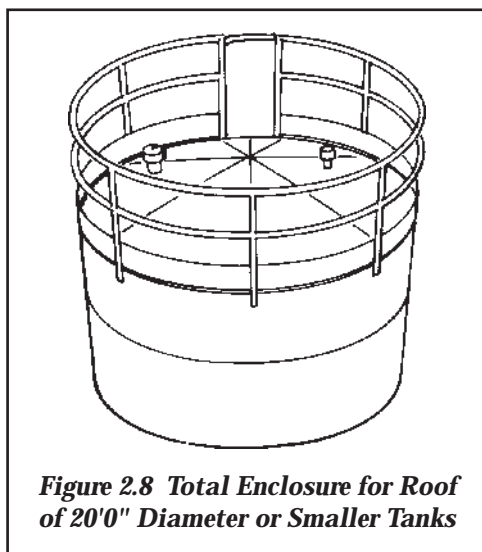

Figure 2.8 Total Enclosure for Roof of 20'0" Diameter or Smaller Tanks
1. Tanks with diameters of 20 feet or less should have a guardrail and toeboard around the entire roof if access to the roof is required. (Not required when railed walkways and platforms are provided).^{*} See *Figure 2.8*.